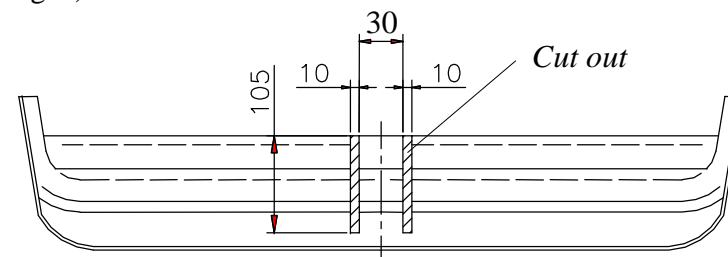

Fig. 2
5. Slide the main bar of the towbar (pos. 1) to chassis members, then fix it using bolts M10x35mm (pos. 6) and big washers (pos. 8).
6. Cut the bumper according to the fig. 2.